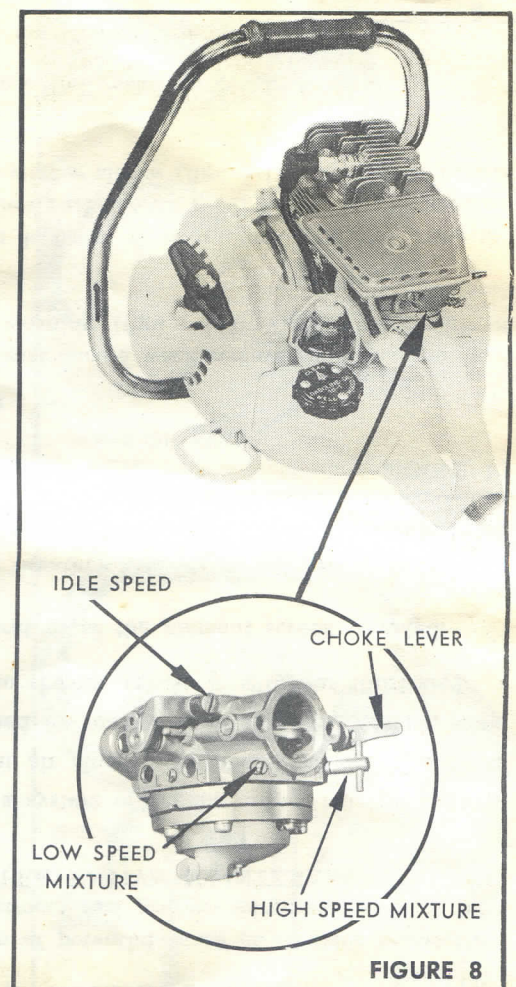

FIGURE 8
1. Idle speed adjusting screw controls the idling speed only (figure 8). To adjust, back the screw off approximately two turns, then turn slowly to the right until the throttle arm just starts to move, then give an additional 1-1/2 turns to the right.
2. High speed adjusting screw controls fuel mixture when the throttle is open (figure 8). To adjust, shut off gently, then open 1-1/4 turns. This may vary slightly for individual chain saws under full load.
3. Low speed adjusting screw controls the fuel mixture at idling speeds (figure 8). To adjust, shut off gently, then open 3/4 to one full turn. This may change slightly according to the individual chain saw and operator.